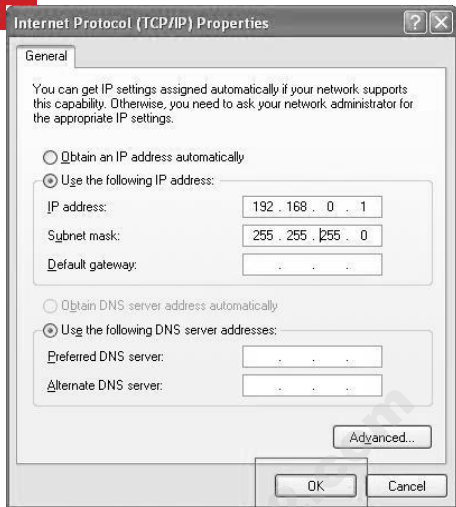

Figure 3.3
5. Again a new window titled "Internet Protocol (TCP/IP) Properties" will pop up. In this window, you need to select "Use the following IP Address" radio button, and set the specific IP address (take the value shown in Figure 3.3 for example), then click on "OK".